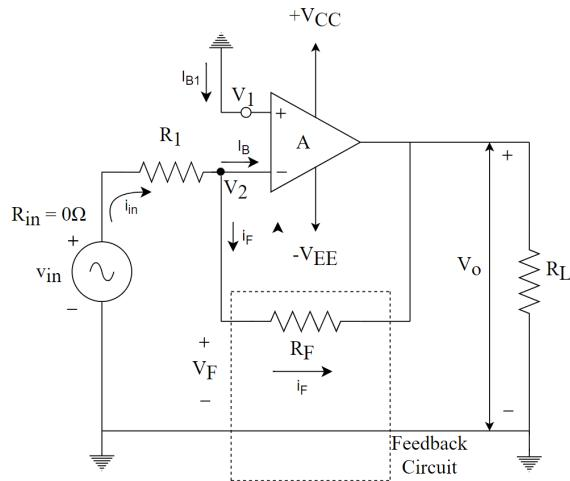

Figure 4.3: Circuit of inverting amplifier
- Connect the circuit as shown in Fig. 4.3